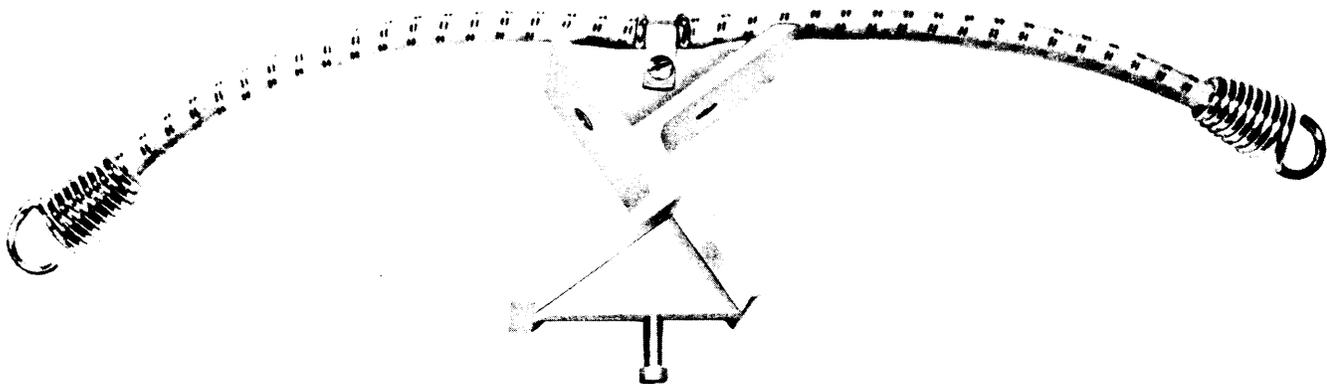

Fig. 4—Clamp L-501857
**1.05** When a new circular waveguide connection is being installed in an existing system by "hot-cut" procedures, a clamp L-501857 (Fig. 4) is